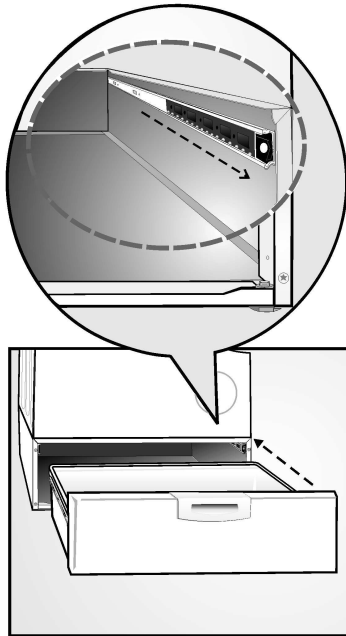

Figure 18
5. Slide the ball bearing rails on the pedestal side to the front (see Figure 18).